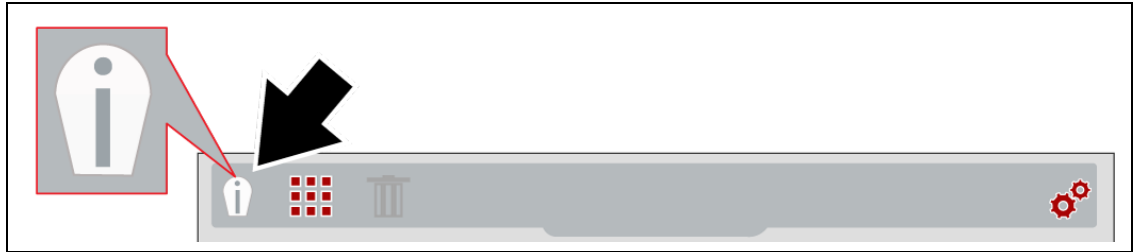

Figure 7-2 Expert Tips Icon
2. (If needed) Use the **Left / Right** control buttons to select the **Expert Tips** icon from the toolbar (Figure 7-2).